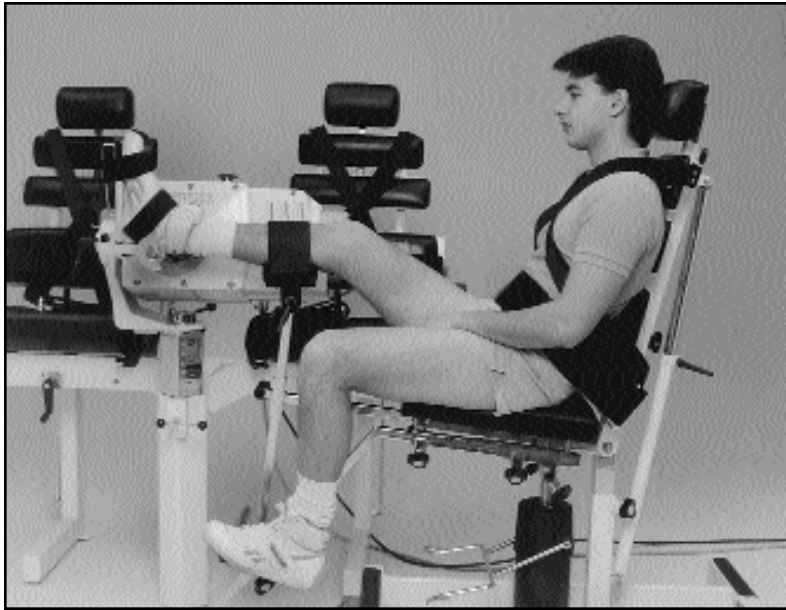

Figure 4.15
2. Affix FOOTPLATE to powerhead shaft so that shaft and fixture red dots align. Secure with locking knob. The FOOTPLATE should be positioned perpendicular to the floor (heelcup at bottom) with 0° of FOOTPLATE tilt so that the footrest faces the positioning or accessory chair. See Figures 4.15 and 4.16.
4. Install MULTI-SUPPORT PAD as shown in Figures 4.19 and 4.20. Loosen the MULTI-SUPPORT PAD ADJUST LEVER and tilt the pad so that it will support the tibia in a horizontal position, see Figures 4.15 and 4.16. Tighten the lever to lock the pad in place. The pad should be positioned under calf (distal to knee) to support limb in a horizontal position with desired degree of hip and knee flexion. Secure the MULTI-SUPPORT STRAP. Install FOOTREST if desired.